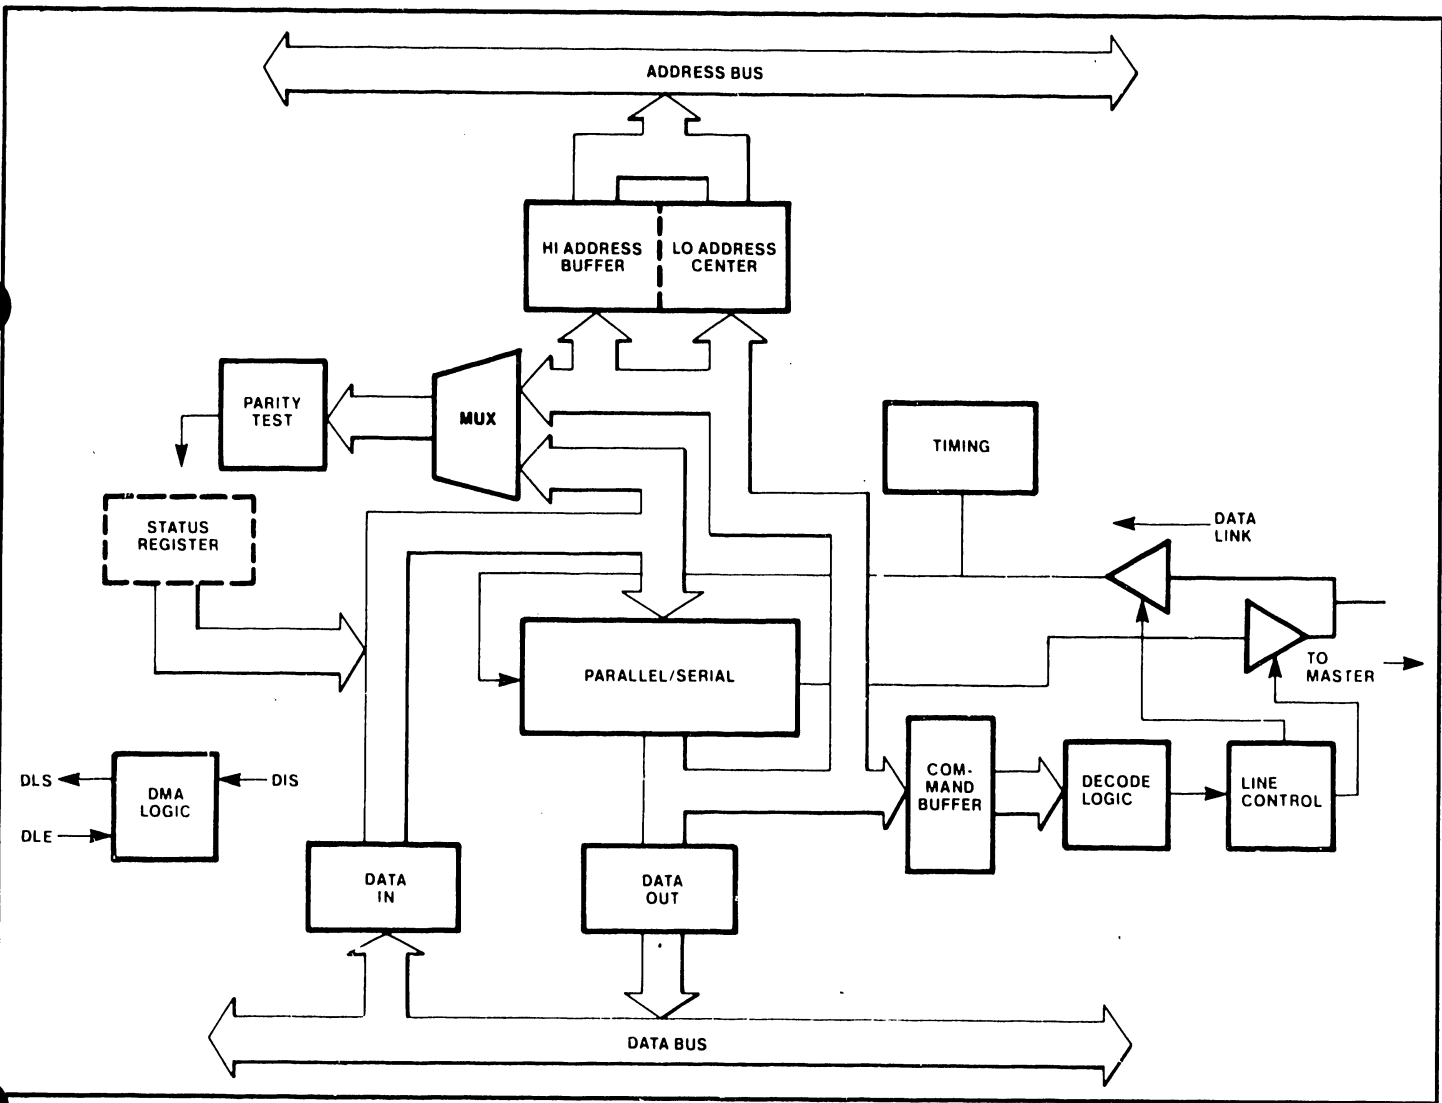

Figure 2-8. Data Link Block Diagram
2.3.2.2 Data Link (Figure 2-8)